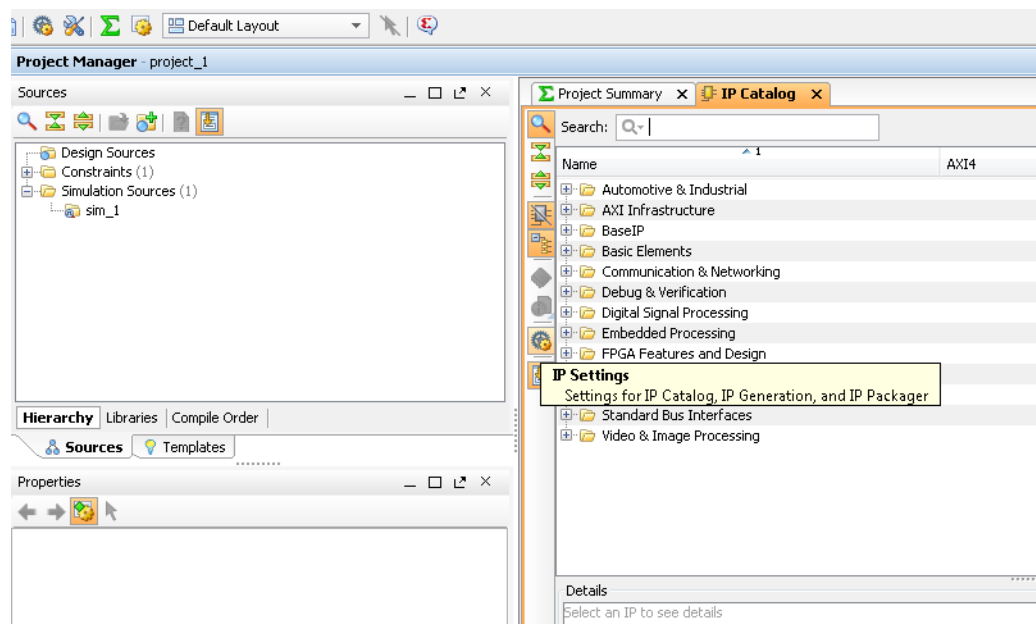

Figure 10-8: Open the IP Catalog Settings
2. Click the **IP Settings** icon (Figure 10-8).